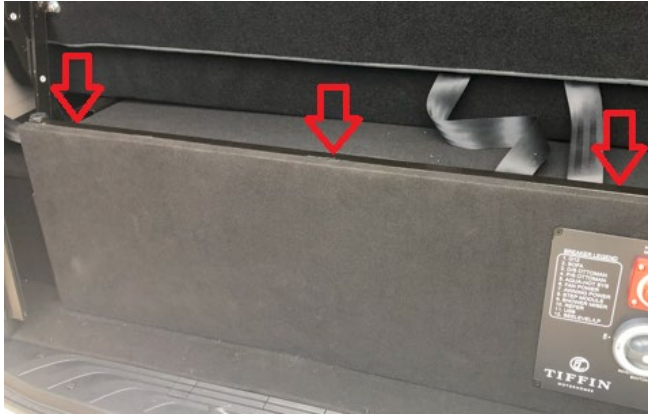

Figure 8
10. On units with 4 batteries the rear panel, Figure 8, will need to be removed. Screws are located along the top/rear side of the panel.